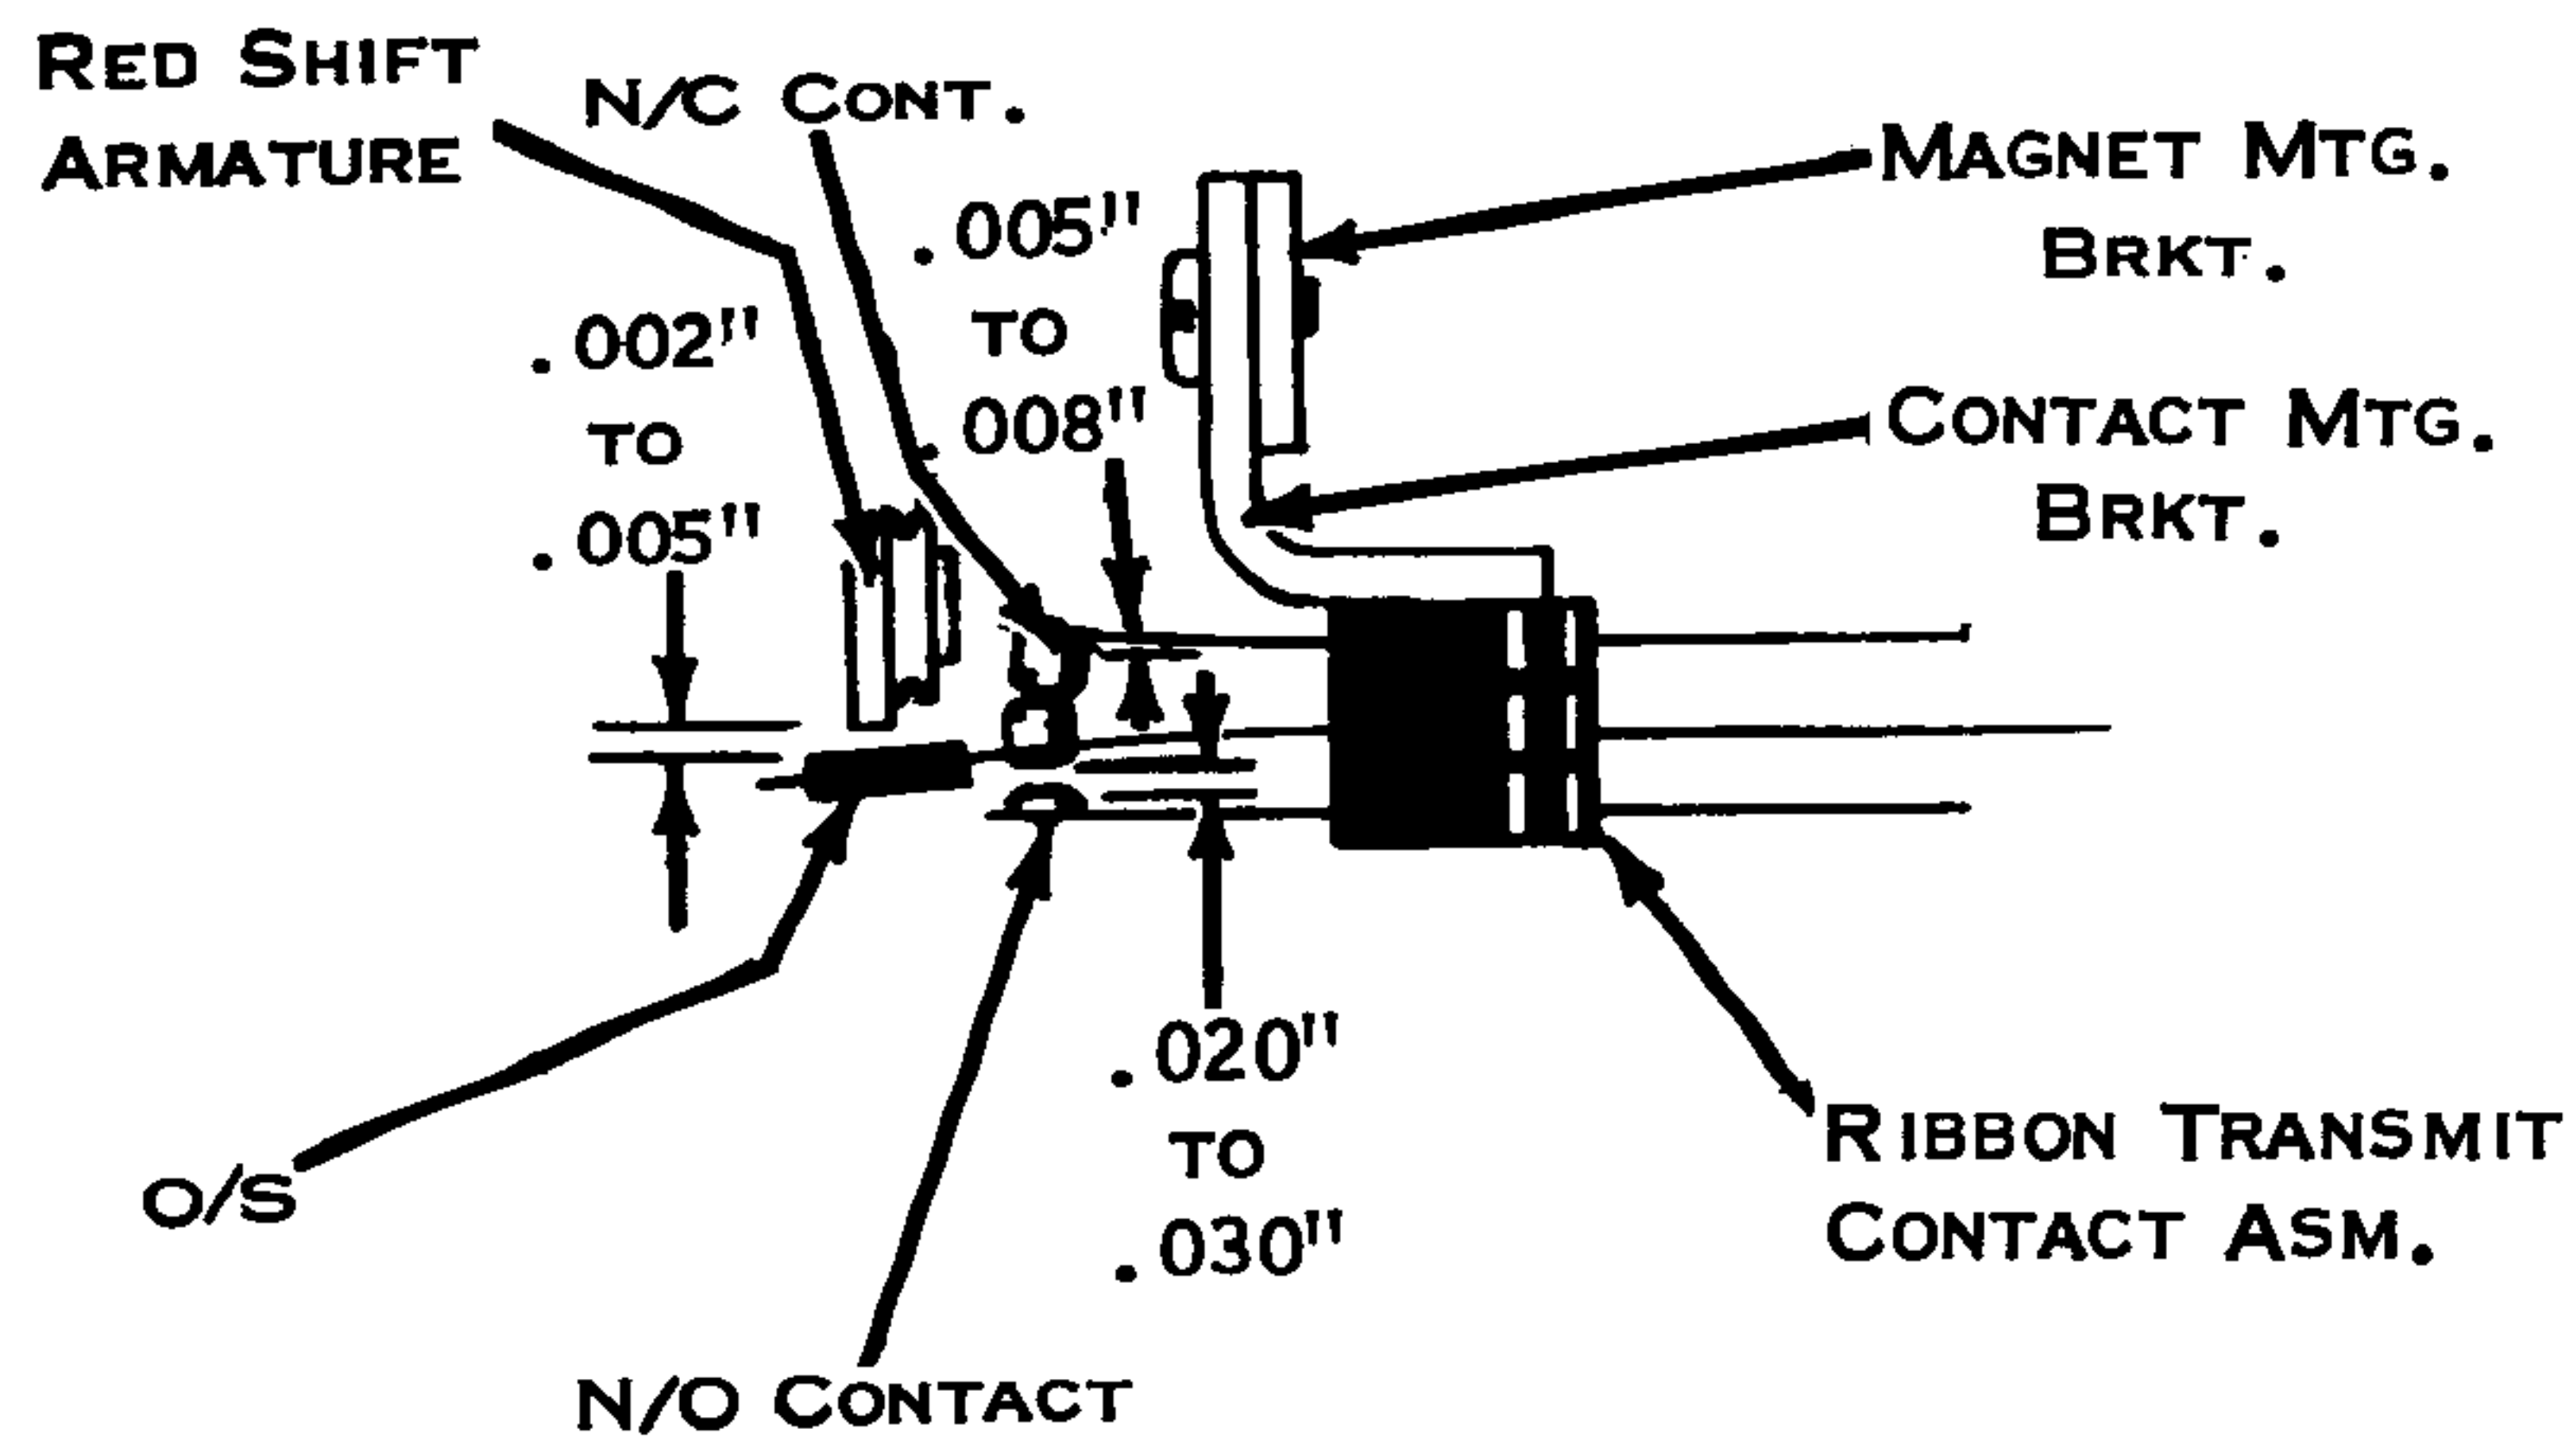

Figure 220. Ribbon Mode Contact
7. Ribbon Mode Contacts (Fig. 220) -